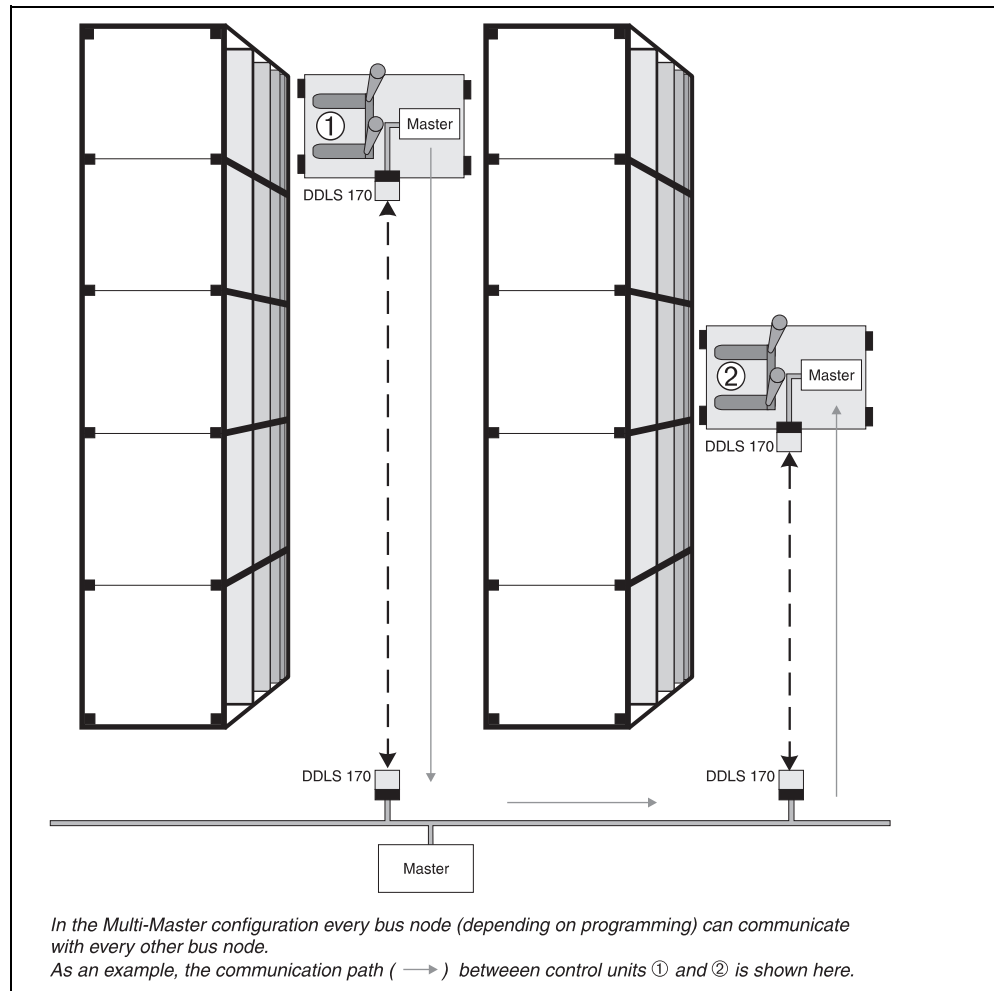

Fig. 14: Indirect series connection
- Trouble-free data transmission with Profibus FMS systems in Multi-Master configuration. In this way it is, for example, possible to establish direct data communication between several high-bay storage and retrieval units located in different storage aisles (indirect series connection, see Fig. 14).